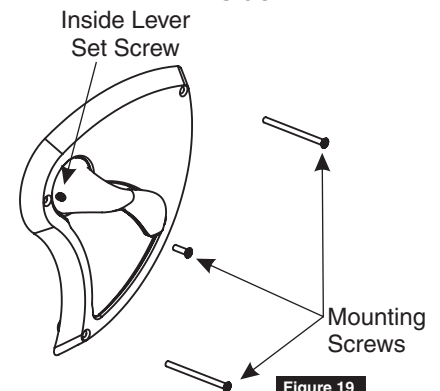

Figure 19
11. Tighten inside lever set screw. (Figure 19)
12. Install three (3) escutcheon mounting screws through inside escutcheon. (Figure 19)